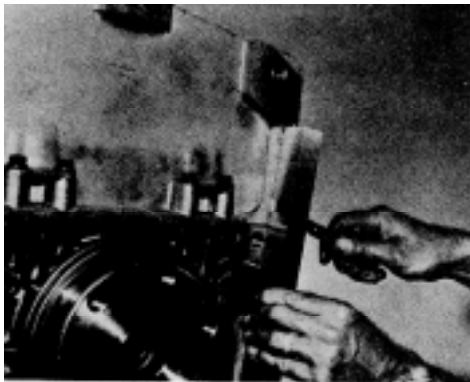

Fig. 14-16, (N114136). Checking oil pan to block alignment
- a. Position so buttress-end of pan is flush with end of block. Check with straight-edge. Fig. 14-16.